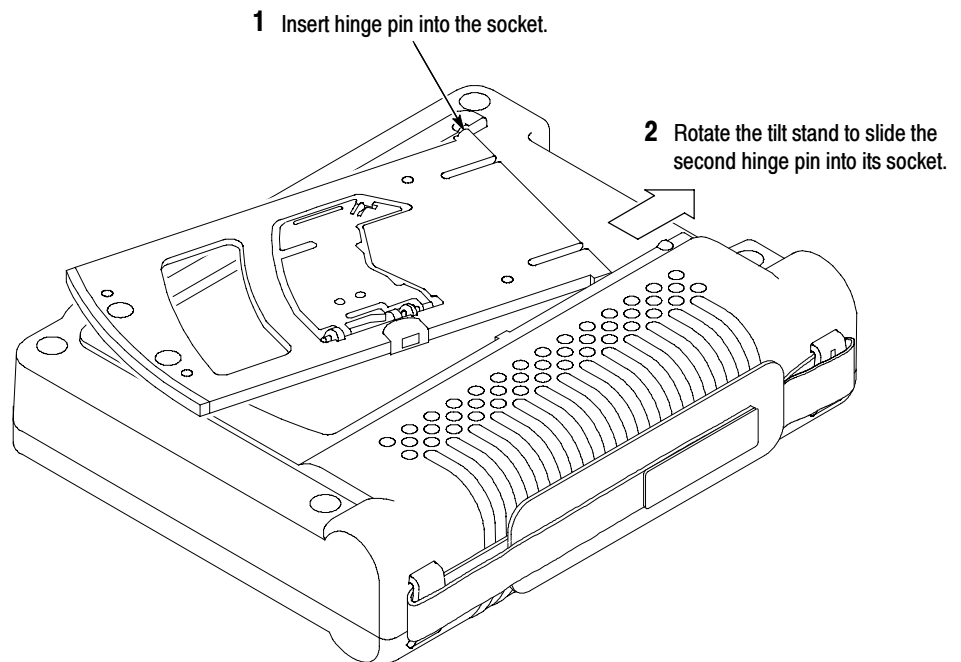

Figure 12: Installing the tilt stand
2. Insert one hinge pin into its socket and place the other into the cavity in the back of the instrument case as shown in Figure 12.